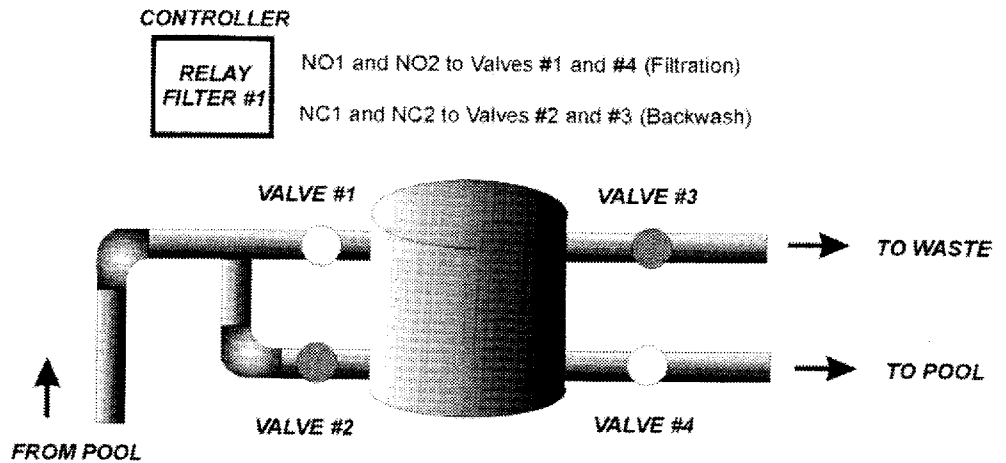

Figure 29 - Single Filter Backwash
As shown in Figure 29, backwashing of a single filter is controlled with four valves that are connected to the Normally Open (NO) and Normally Closed (NC) poles of Filter Relay 1.